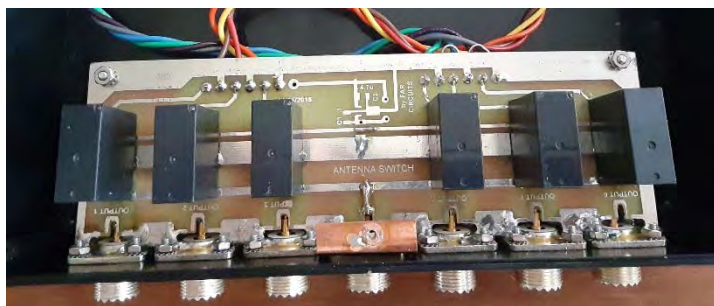

Figure 3 - Switch unit PCB installed in enclosure
*Low-Cost Antenna Switch* article in the online supplemental material to the *ARRL Handbook 100*, in the *Station Accessory Projects* chapter. This switch unit uses a half dozen relays to provide switching for up to six antennas, and is wired so as to ground the antennas not in use at any given time. I read the article, thought about the design a while, and then I ordered the printed circuit board (Figure 3) from FAR